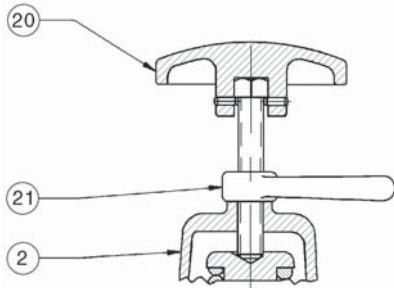

Figure 1: Option D-3 or DL-3 Handwheel and Locking Lever
2. Relax range spring (14) by turning adjusting screw (6) CCW until removed from spring chamber (2). **NOTE:** If the D-3 Option handwheel is utilized, the adjusting screw (6) and locknut (7) are replaced respectively by handwheel adjusting screw (20) and locking lever (21). Refer to Figure 1.
3. Draw or embed a match mark between body casting (1) and spring chamber casting (2) loading chamber (33) along flanged area.
4. Remove all diaphragm nuts (9) and bolts (8).
5. Remove spring chamber (2), (loading chamber 33), range spring (14), spring button (4), pressure plate (3) and diaphragm(s) (12). **NOTE:** Refer to the quantity of diaphragms (12) incorporated per the bill of materials listing. Depending on outlet pressure level, multiple metal diaphragms may be "stacked".
6. Remove pusher plate (11) and inspect for a fit which limits its travel to a vertical direction. Wear will show as excessive wobble in pusher plate (11). If apparent, recommend trim removal and inspection; go to Sub-Section C following. Reinstall pusher plate (11).
7. Inspect pressure plate (3) to ensure no deformation due to over-pressurization. If deformed, replace.
8. Clean body (1) and diaphragm flange. **NOTE:** On regulators originally supplied as "oxygen clean", Option D-5, D-36, D-55, or DL-55, maintenance must include a level of cleanliness equal to Cashco cleaning standard #S-1134. On regulators originally supplied as "cleaned for Pharmaceutical and Food applications" Option D-37 or D-37S, maintenance must include a level of cleanliness equal to Cashco cleaning standard #S-1576.
9. Place diaphragm gasket (13) on body (1) flange. Position diaphragm(s) (12) into place. Visually center pressure plate (3) onto diaphragm(s) (12), and set range spring (14) onto retainer hub of pressure plate (3). (Opt.-20 does not utilize spring skip to step 11.) **NOTE:** No diaphragm gasket (13) for composition diaphragm.
10. Place multi-purpose, high temperature grease into depression of spring button (4) where adjusting screw bears. Set spring button (4) onto range spring (14); ensure spring button (4) is laying flat.
11. Aligning the matchmarks, place spring chamber (2) over the above stacked parts. Install all bolts (8) and nuts (9) by hand tightening. Mechanically tighten bolting (8 & 9) in a cross pattern that allows spring chamber (2) to be pulled down evenly. Recommended torque values are as follows: